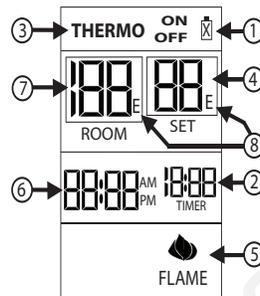

Figure 5. Transmitter LCD Display Screen
Insert 2 AAA-size 1.5V batteries into the battery compartment on the back of the transmitter. When the batteries are correctly inserted, the screen will display numbers (see Figure 5 for LCD Display Screen).
To operate the system, press the MODE button (Figure 5) on the transmitter to select the operational MODE desired.
1. Press and hold the TIMER/TIME button on the transmitter for more than two seconds. The hour digit(s) will begin flashing (see Figure 5, Location #6).
2. Push setting button and °F will begin flashing on the LCD screen (see Figure 5, Location #4).
1. Press and release the TIMER/TIME button on the transmitter. The word TIMER and 0:15 flash on the screen (see Figure 5, Location #2).